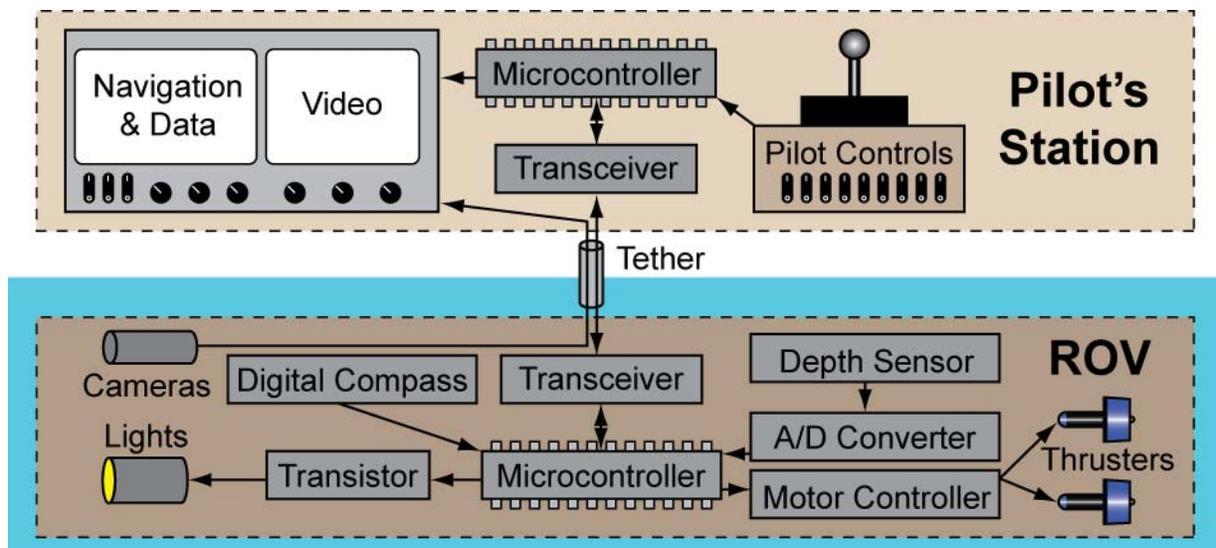

Figure 1: One Possible Advanced Control System
- **Possibilities for Control Systems:** Figure 1 illustrates some possibilities for an advanced control system.